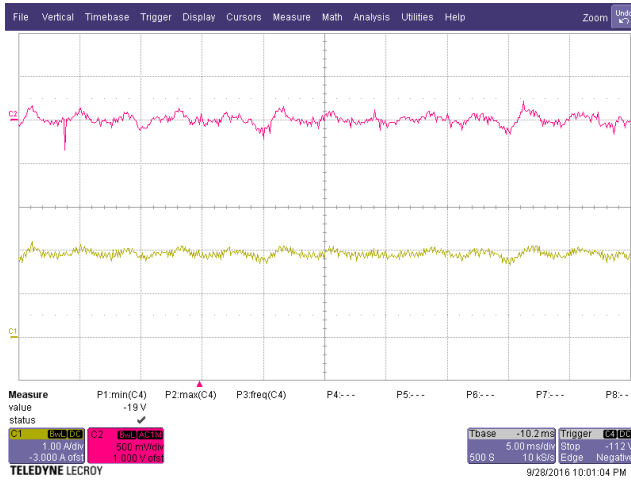

Figure 28 – Main Output Voltage and Current Ripple in CC Mode, 180 VAC, Chroma CV Load, 30 V Setting.
One simple method of accomplishing this is to use a normally open thermal switch mounted on the primary heat sink adjacent to U1. When activated, it switches in an extra resistor in the current sense amplifier reference divider network (R33) which cuts the current limit by a factor of two. This allows charging to continue (albeit at a lower rate), and either allows the primary heat sink to cool down or keeps it from reaching the U1 thermal shutdown temperature. The thermal switch used in this DER is a Cantherm F20B10005ACFA06E, obtained from a catalog distributor. It is a normally open (NO) switch with a trip temperature of 100 °C nominal, and a nominal reset temperature of 70 °C (30 degrees hysteresis). It has a plastic case designed with a mounting hole for screw attachment next to U1 on the primary heat sink, as well as leads for convenient termination to the power supply PCB. The switch can be seen in Figure 28 below.